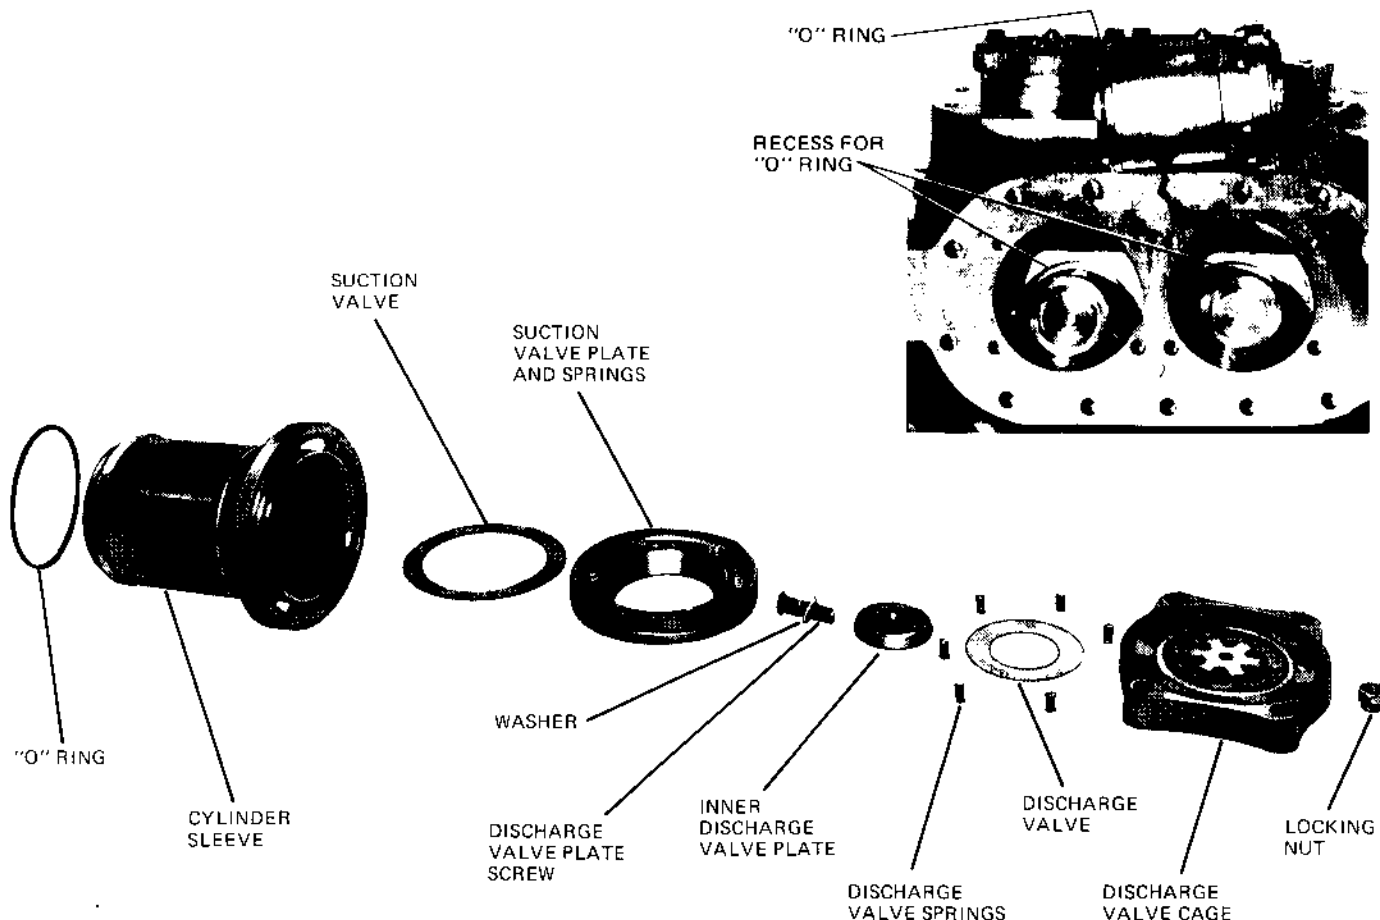

FIG. 7 — REMOVING VALVES AND CYLINDER SLEEVES
To remove the valve assemblies and cylinder sleeves, refer to Fig. 7 and proceed as follows:
4. Remove the discharge valve screw and its beveled gasket. Then lift out the inner discharge valve plate, discharge valve and springs. (See Fig. 7.)
To install the cylinder sleeves, refer to Figs. 7 and 8 and proceed as follows:
To install the suction and discharge valves, refer to Figs. 7 and 9 and proceed as follows:
The high pressure relief valve is screwed into the upper machined surface of the cylinder bank under the top head to relieve any abnormally high discharge pressure back to the suction side of the compressor (see Fig. 7). It is factory set to open at 375 psi differential pressure. The high pressure relief valve may best be checked for leakage when the compressor is open for repairs or inspection.